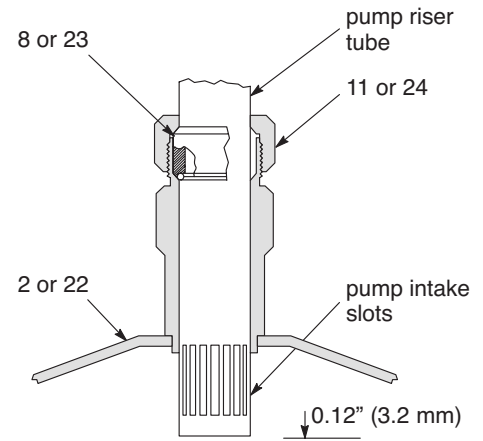

FIG. 5
2. Remove inductor plate nut (11 or 24), locking ring (8 or 23) and o-ring (9). (FIG. 5)
3. In order, slide inductor plate nut (11 or 24), locking ring (8 or 23) and o-ring (9) on pump riser tube. (FIG. 5)